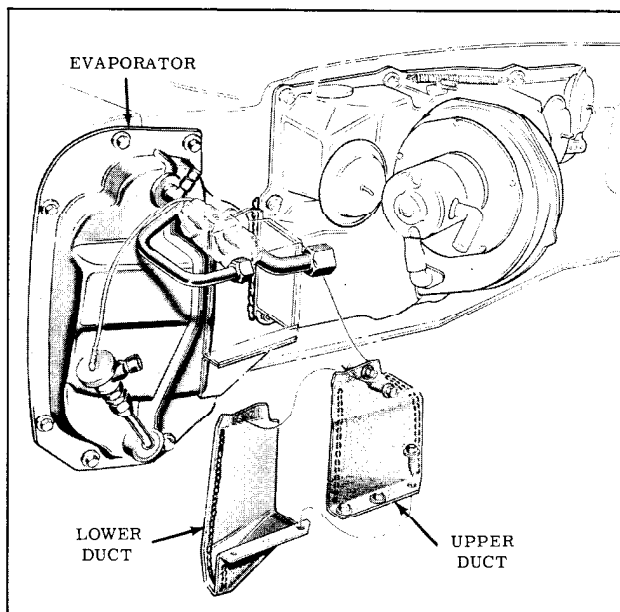

Fig. 14-32 Evaporator Assembly
4. Remove six screws from evaporator to blower connecting duct, then remove upper section of duct. (Fig. 14-32)